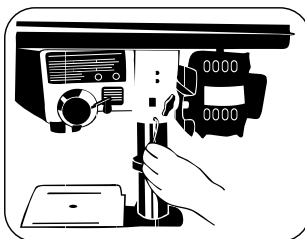

FIGURE 8.6
- Connect the crank handle to the rack, tighten the set screw with an Allen key (Figure 8.6)
- Tighten the two sets of bolts found on the right side of the Spindle Head Set using the Allen Tool J (Figure 8.6).